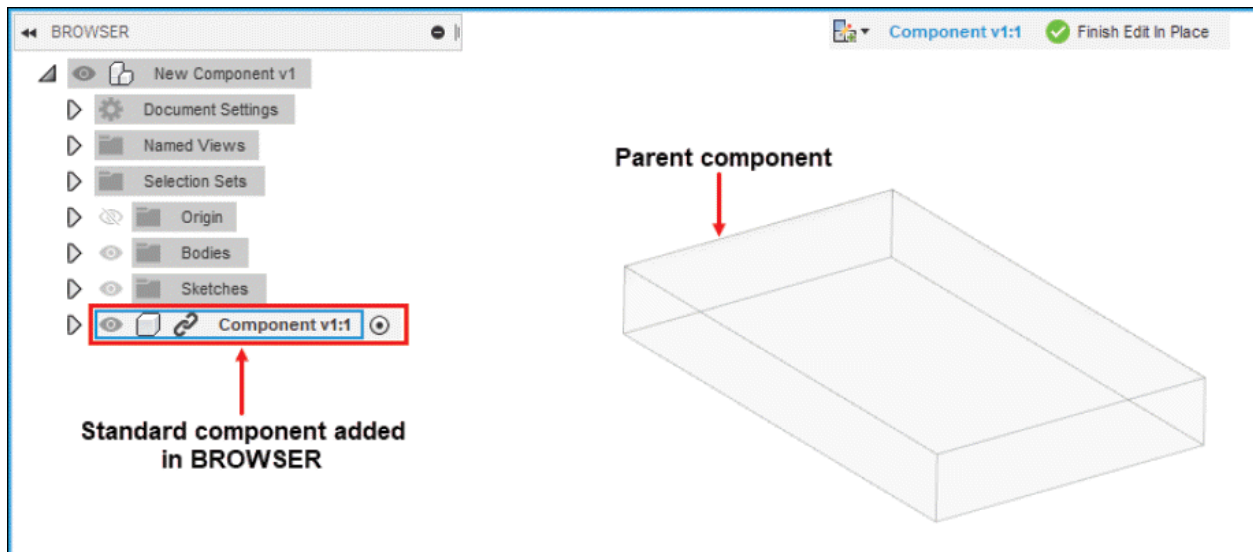

Figure-4. Standard component created
- After specifying the parameters for standard component, click on the **OK** button from **NEW COMPONENT** dialog box. A standard component will be created; refer to Figure-4.